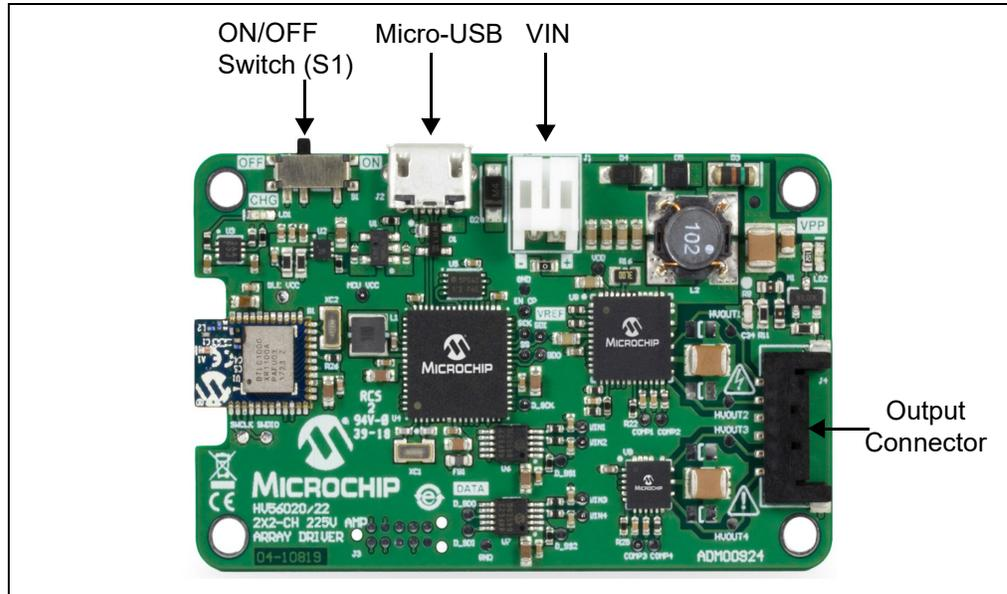

FIGURE 1-2: HV56020/22 Evaluation Board.
3. Launch the MCHP Haptic Bridge GUI. Turn on the HV56020/22 Evaluation Board using switch S1 (see Figure 1-2).